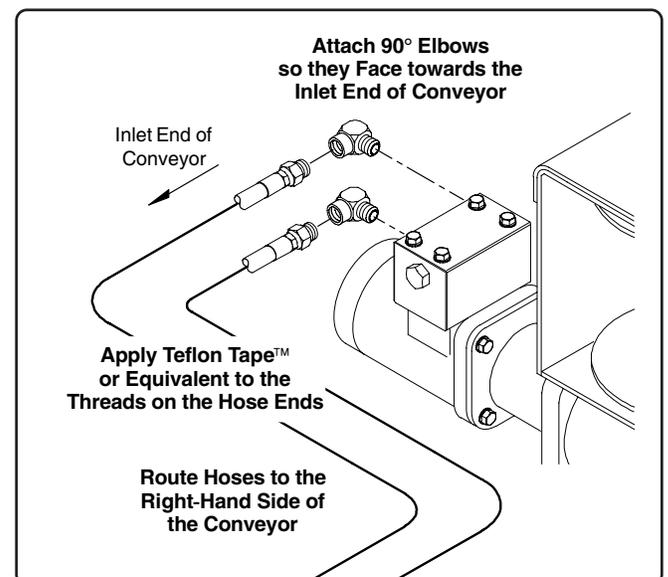

Fig. 1
2. Locate the two 90° elbows from the kit. Install the elbow fittings into the ports on the pressure relief valve located on the left-hand side of the winch, See Fig. 1 below. When tight, the fittings should be facing towards the inlet end of the conveyor and slightly angled down (the hoses need to pass under the conveyor tube and will be routed along the right-hand side of the conveyor).